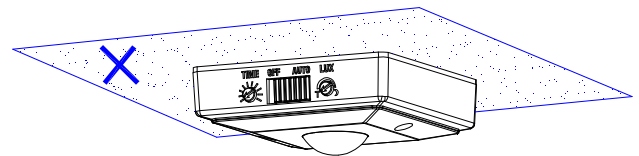

FIGURE 1
- The unit cannot be installed on the ceiling. (FIGURE 1)